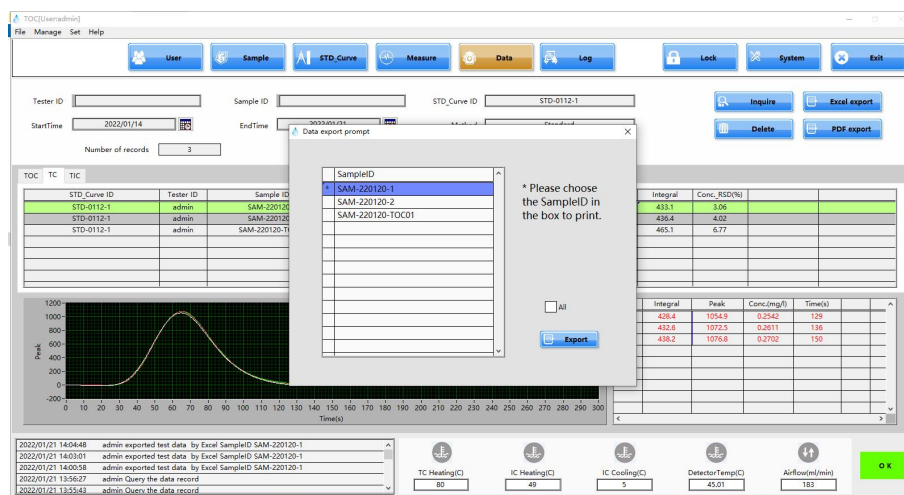

Fig 4.96
4. Click  (Fig 4.95.1), select the data need to be exported and click 'Export' (Fig 4.96), then fill the path in popover and click OK to export the data.